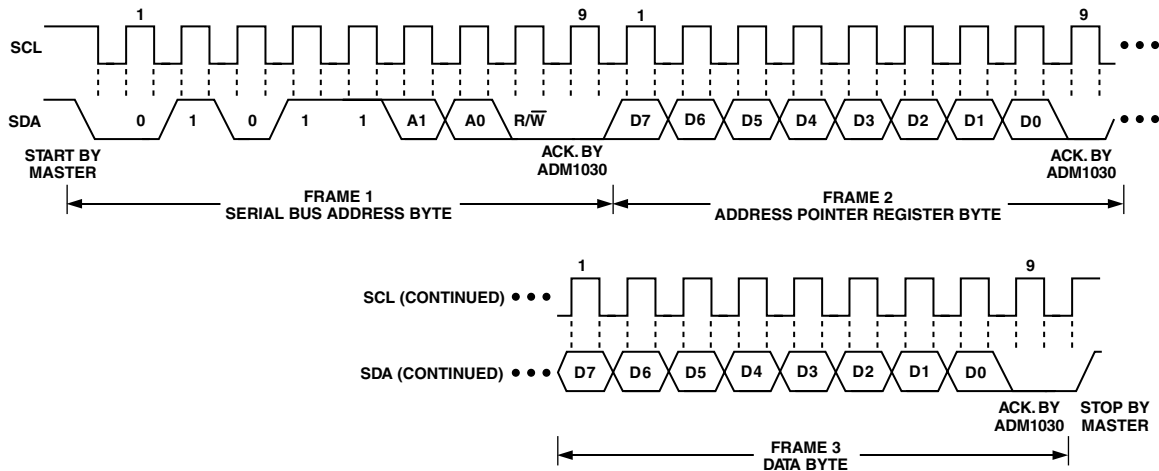

Figure 2a. Writing a Register Address to the Address Pointer Register, then Writing Data to the Selected Register
This is illustrated in Figure 2a. The device address is sent over the bus followed by  $R/\overline{W}$  set to 0. This is followed by two data bytes. The first data byte is the address of the internal data register to be written to, which is stored in the Address Pointer Register. The second data byte is the data to be written to the internal data register.
2. In Figures 2a to 2c, the serial bus address is shown as the default value 01011(A1)(A0), where A1 and A0 are set by the three-state ADD pin.